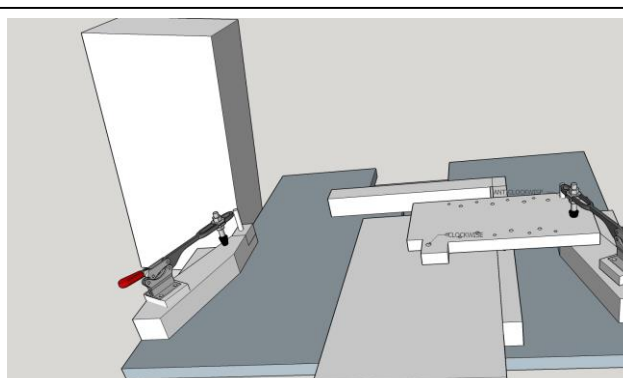

Figure 8: RHS Anti-clockwise Pins
- c. Cut the pins as described in Part 1. See figure 8.